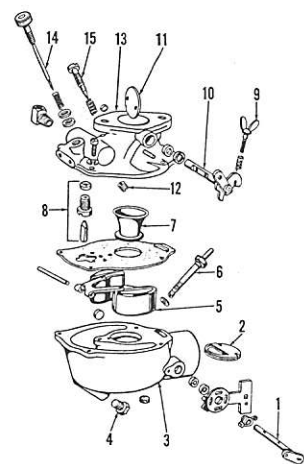

Fig. 147—Exploded view of Marvel-Schebler carburetor used on some models.
133. **OVERHAUL (MARVEL-SCHLEBLER).** Refer to Fig. 147. To disassemble the removed carburetor, first clean outside with a suitable solvent and remove main adjusting needle (14) and idle mixture adjusting needle (15). Remove the four screws which retain throttle body (13) to fuel bowl (3) and lift off